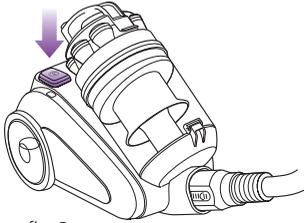

fig. 3
- 3 Turn the vacuum on first by stepping on the On/Off button on the vacuum (Fig. 3) and then turn the motorized power nozzle on by using the power switch on the handle of the flexible hose. (Fig. 4)